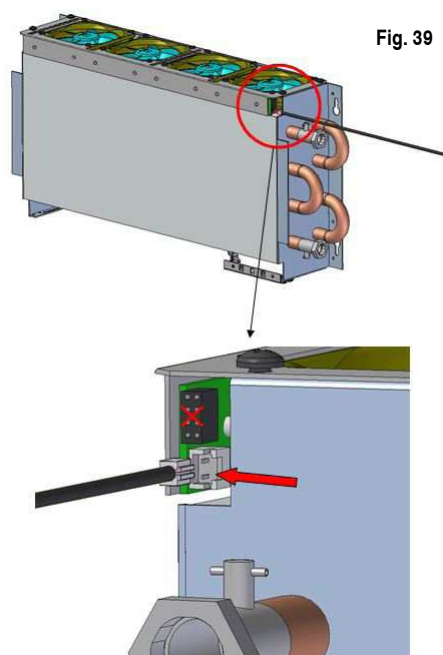

Fig. 39
5. Connect the HE KIT fan power cord. (fig 39).